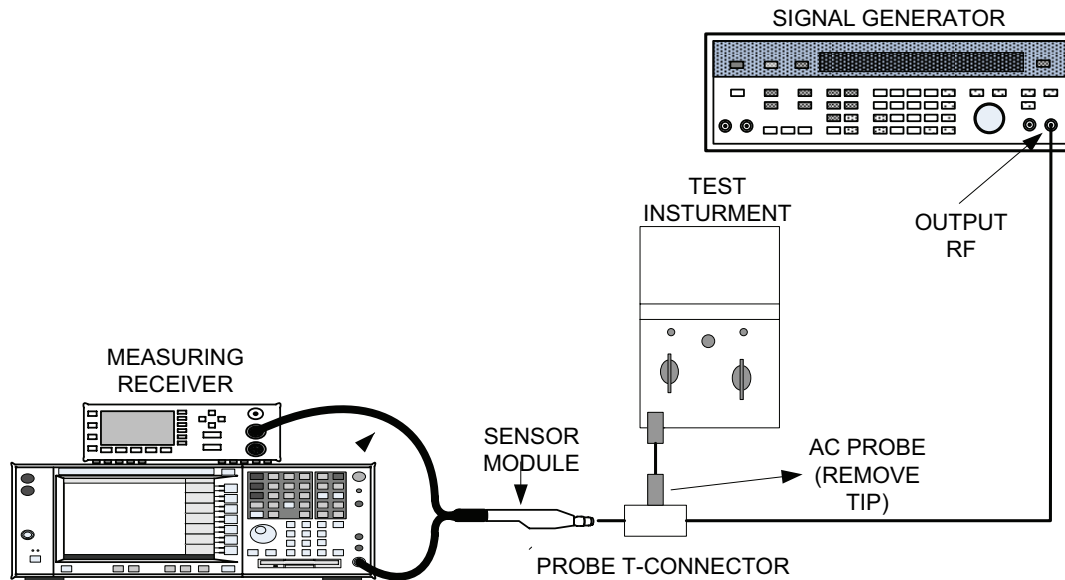

Figure 4. Frequency response - setup.
- (10) Connect measuring receiver sensor module input to calibrator **OUTPUT HI** and **LO**.
- (11) Set calibrator to **OPERATE**.
- (12) Set measuring receiver to measure RF power in dBm at 1 MHz. Record measuring receiver indication.
- (13) Set calibrator to **STANDBY** and disconnect from measuring receiver.
- (14) Connect equipment as shown in figure 4.